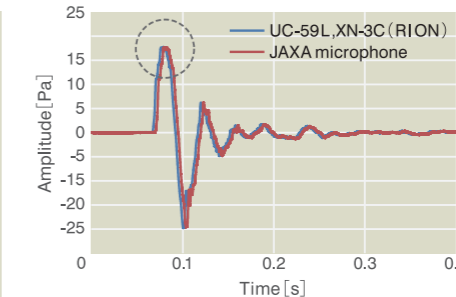
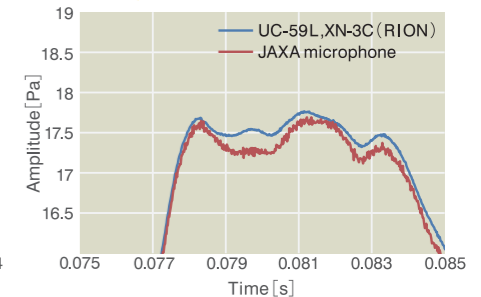

Figure 4: Waveforms for sonic boom
Figure 5: Magnified waveforms of sonic boom
We report the measurement result, focusing on the waveforms obtained by the new system (1) (multifunctional measurement system RIONOTE). The waveforms have been obtained by the JAXA's microphone (Ch1) and Rion's microphone UC-59L (Ch.2) using the two channels of the RIONOTE. When a comparison is made between those two microphones, the properties of the measurement system can be ignored. Figure 4 shows the sonic boom waveforms obtained with the two microphones of the new system (1) (RIONOTE). The two waveforms are almost the same. They are also more or less the same as the waveform obtained by the existing system with the microphone installed on the same metal plate. As it is the verification test of the low sonic boom design concept, the pressures rise gently and the peaks are low compared with an N-shaped waveform. Figure 5 shows a magnified view of the area encircled by a dotted line in Figure 4. The peaks of the two waveforms are slightly different. Figure
6 shows the FFT analysis result of the waveforms in Figure 5. The principal components range 20 Hz to 30 Hz. The waveforms obtained by JAXA's existing system and Rion's systems are almost the same. That is considered to be because the two microphones meet the specification for sonic boom measurement that JAXA has been using, and because the measured sonic booms have the principal components in a band in which the characteristics of the microphones differ little. But, the waveforms are slightly different in amplitude at the peak, which is considered to result from the difference in measurement environment (due to the distance of 110 mm) as well as the difference in characteristics of the systems. In this test, Rion has succeeded in measuring sonic booms using domestic measurement systems and contributed to improvement in Japan's measurement technology. This achievement, coupled with the achievement of JAXA's flight test, is